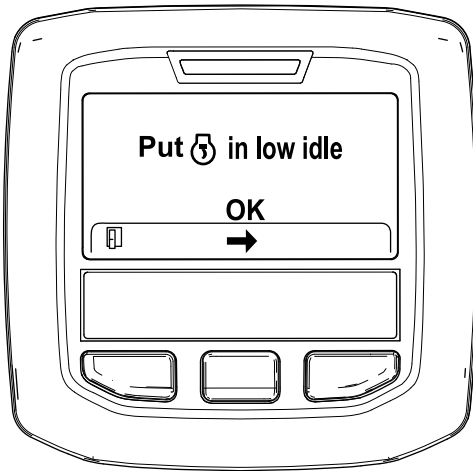

Figure 53
6. Move the throttle control to LOW IDLE and press the center button (Figure 53).